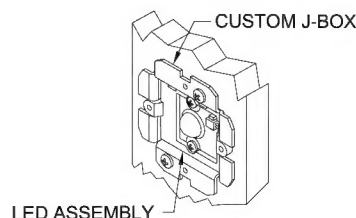

FIG. 5
8. Once connections have been made push connections into J-BOX and insert LED ASSEMBLY into J-BOX (FIG. 5).